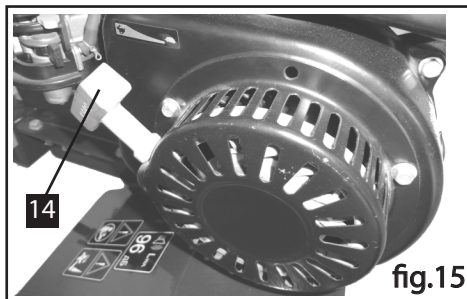

fig.15
4) Pull the starting handle slowly until you feel the resistance, and then pull it out suddenly and quickly. (Fig.15)